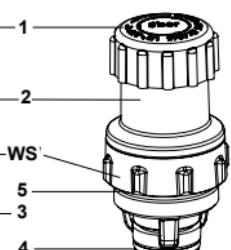

fig. 3b
The valve casing (3) is sealed with an O-Ring. Take care that both O-Rings (4 + 5) are mounted on the top replacement (**see fig. 3b and 4b**) and that the thread on the top piece as well as the sealing area adjacent to the O-ring on the valve casing (3) is shiny metal and clean.